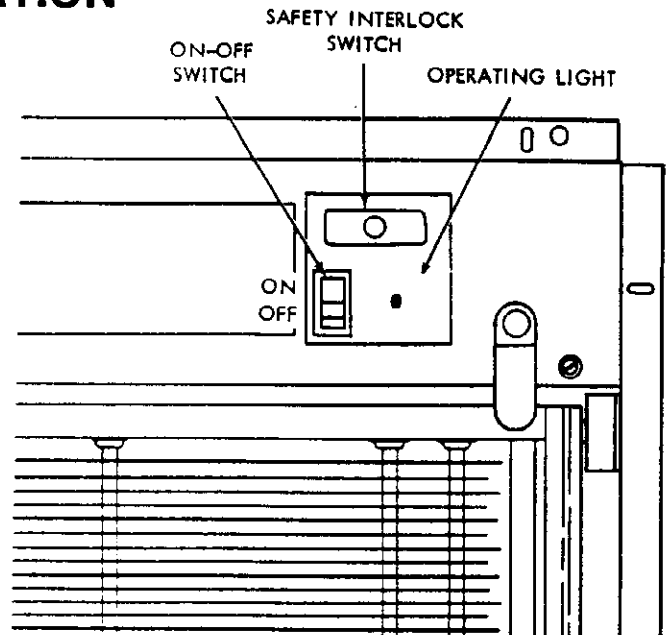

Figure 21
2. Press the upper section of "ON-OFF" rocker switch (Figure 21).
2. Push "ON-OFF" rocker switch at bottom to turn it off. (Figure 21). Wait 15 seconds.